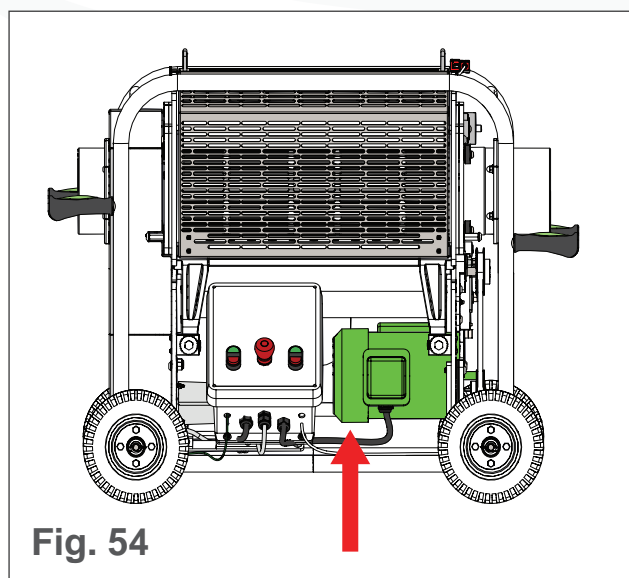

Fig. 54
12. Lift the blade motor from behind so it drops and gives the desired belt tension (see Fig. 54).